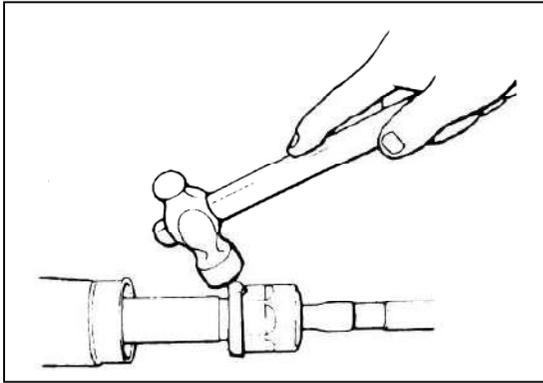

Fig 17-44
- (1) Adjust around the maximum limit of the standard values.
- (2) See that no ratcheting or catching are present when operating the rack towards the shaft direction.
- (3) Measure the total pinion torque through the whole stroke of the rack.
- (4) If the adjustment is impossible in the given range,check the components of the rack support cover,and replace if necessary.
12) TAB WASHER/TIE ROD INSTALLATION(See fig 17-44)